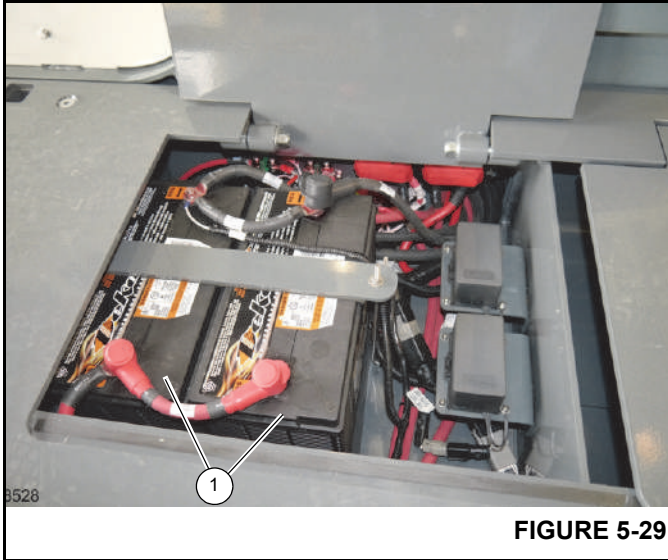

FIGURE 5-29
1. Open the battery compartment cover to gain access to the batteries (1, Figure 5-29).